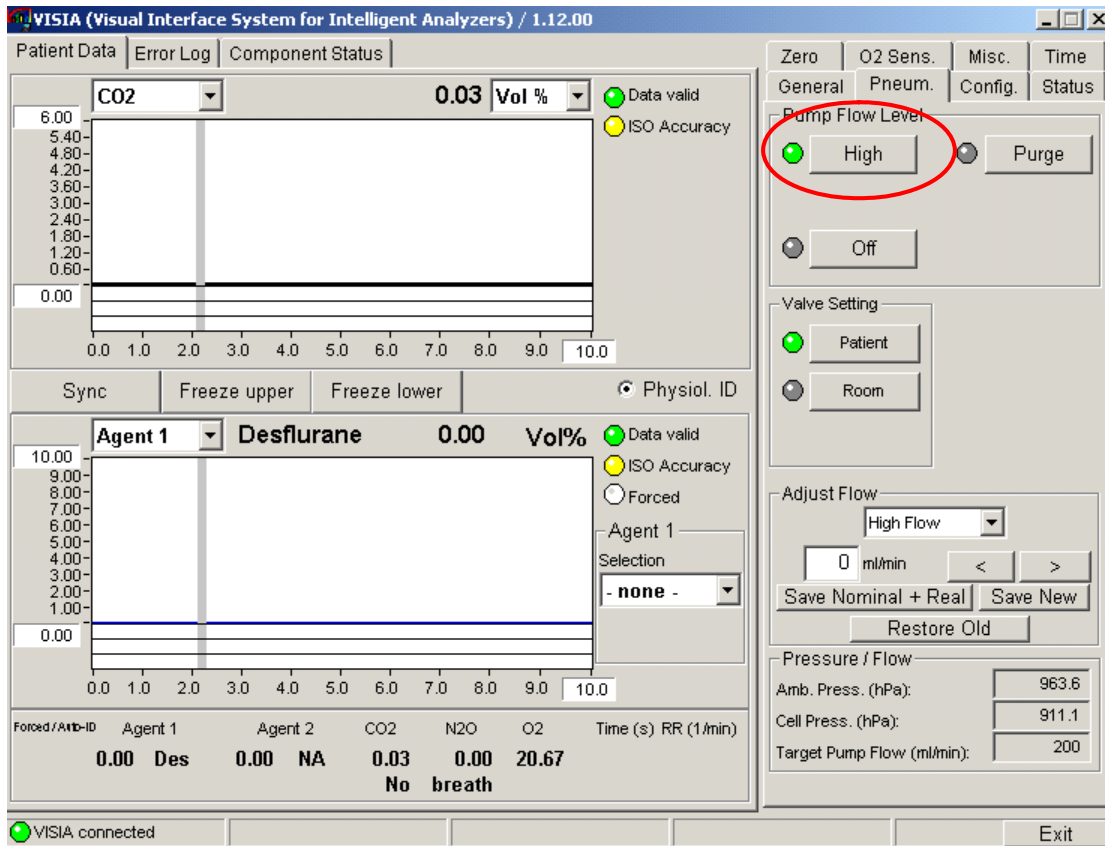

Figure 8 Pneumatic Tab in VISIA tool
- switch Pump Flow Level to *High* (as shown in Figure 8).